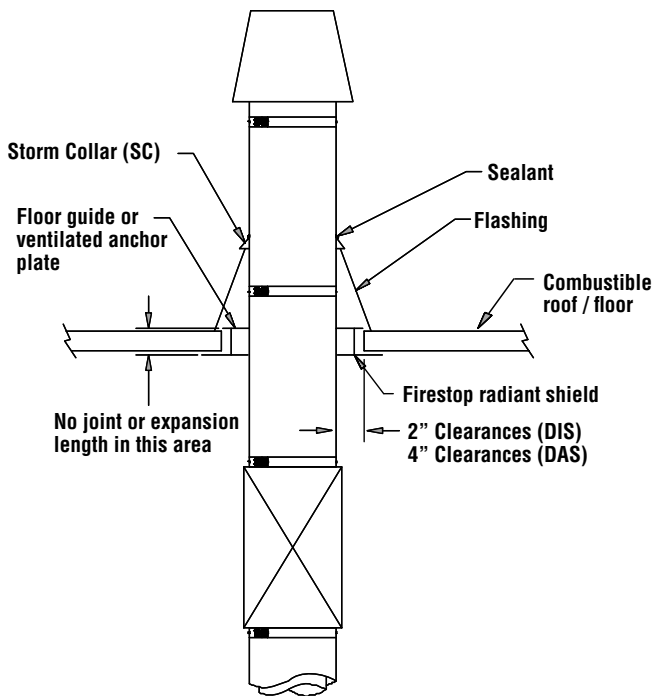

Figure 36 - Roof / floor penetration
1. The roof/floor penetration consist of a firestop radiant shield (FS), a flashing (F) with a storm collar (SC) and a floor guide (FG) or ventilated anchor plate (APV) (see **Figure 36** roof/floor penetration).